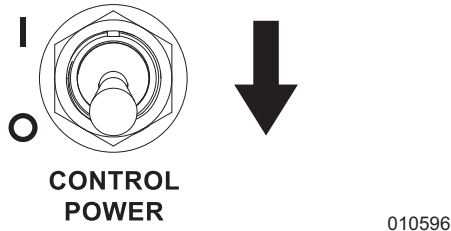

Figure 3-35. Controller Power OFF (O)
- See Figure 3-35. Switch controller power to OFF (O).